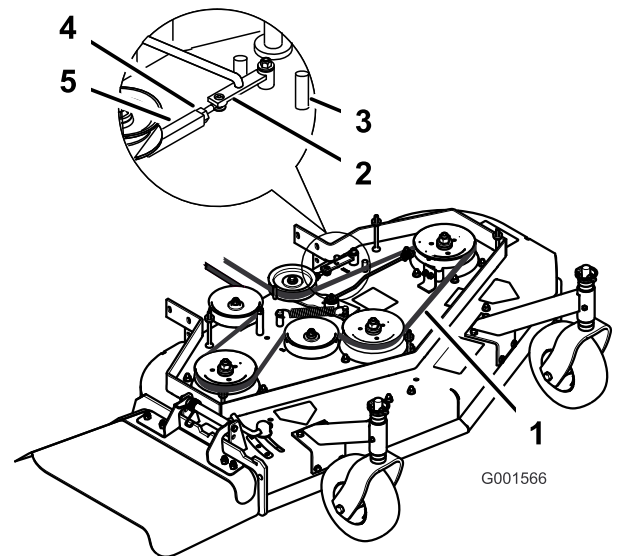

Figure 44
3. Loosen the locknut on the turnbuckle (Figure 44).